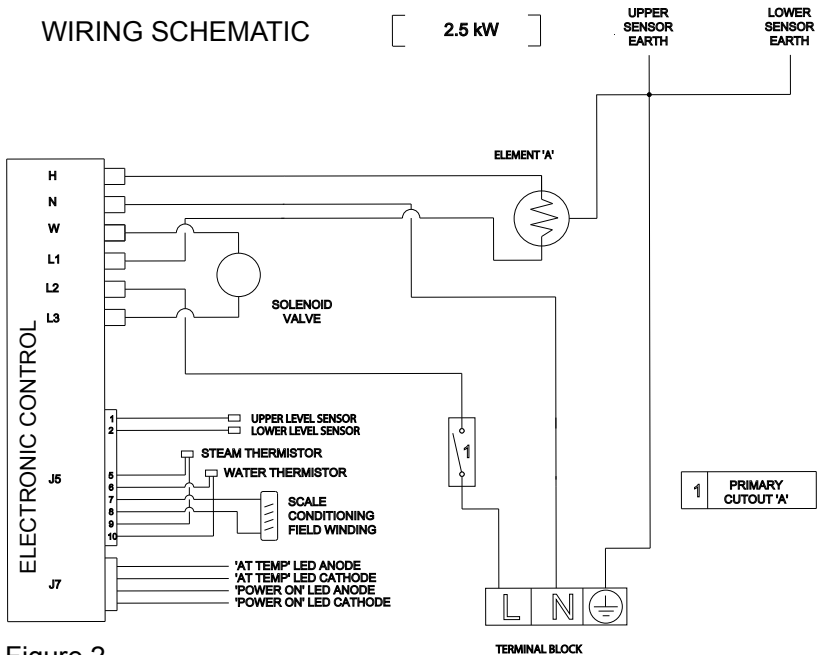

Figure 2
- 4.6 Push fit connectors are supplied to allow either bottom or rear entry of services (see figure 2, p9). If a combination of entry points are required an additional connector will be required as follows: